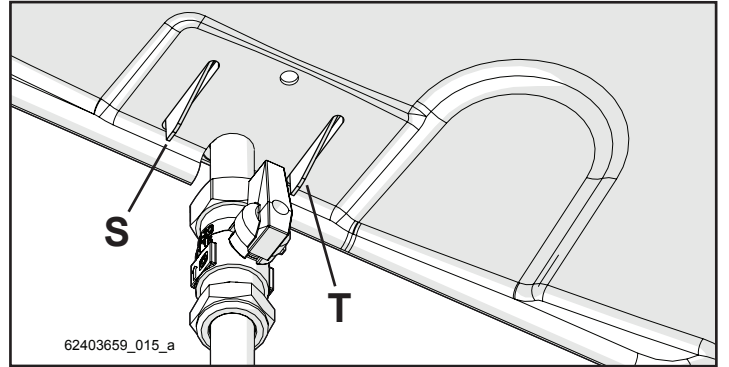
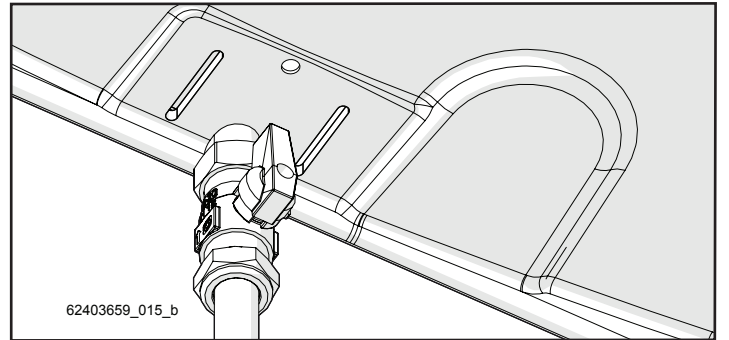
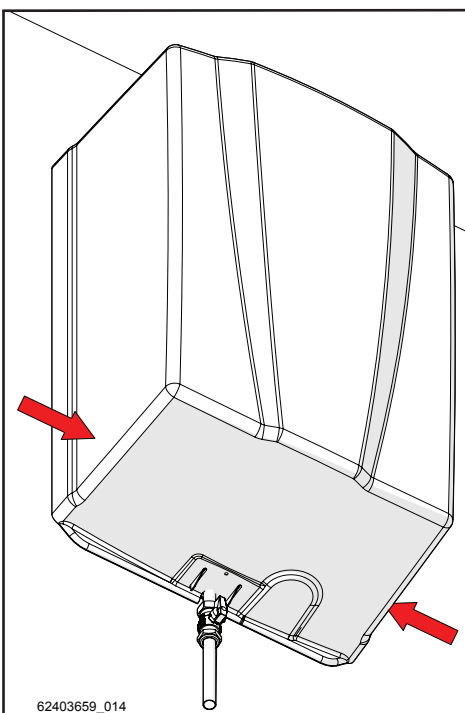

Figure 5-49
Figure 5-50
Figure 5-48
- 2 - Press on the areas marked with an arrow in figure 5-48; this takes you from the position in figure 5-49 showing two triangular points "S" and "T", to the position in figure 5-50;